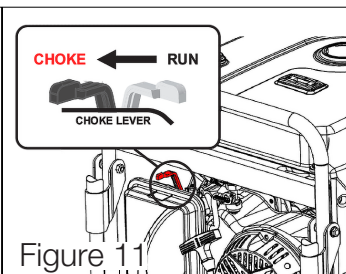

Figure 11
- Slide the choke lever to the “Choke” position. (See fig 11) **Skip if the engine is warm or hot.**